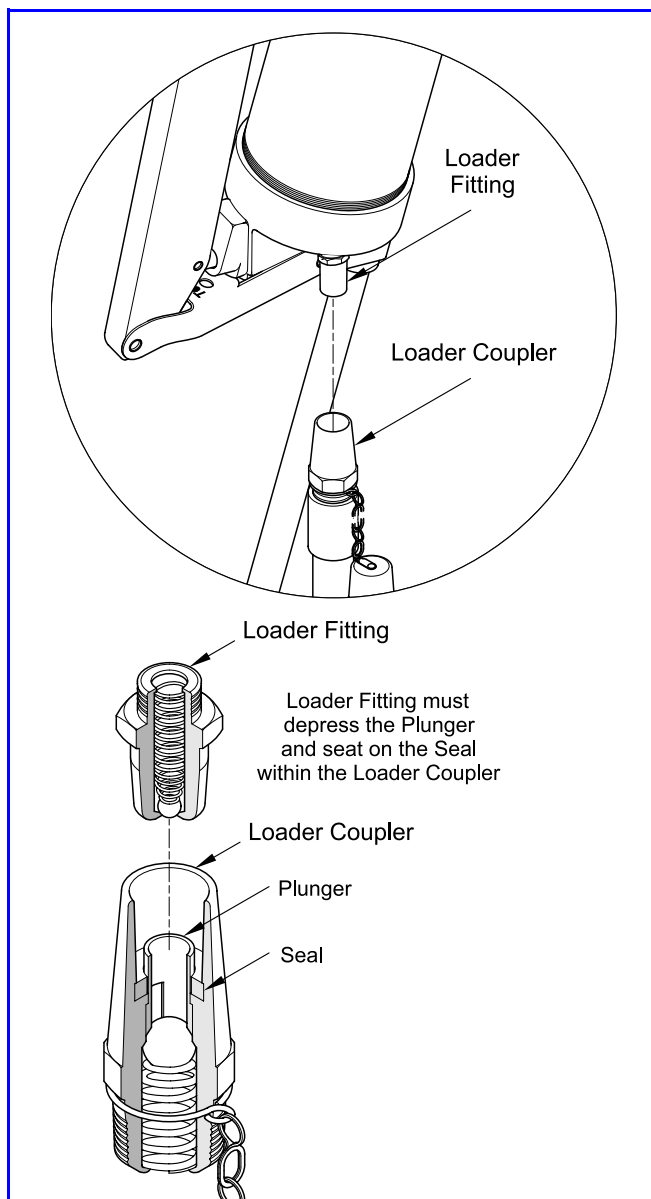

Figure 5 *Loader Fitting and Loader Coupler Section View*
Each gun is also equipped with a Loader Fitting that allows filling directly from a hand-operated loader pump. See **Figure 5**.
5. Seat the Loader Fitting into the loader coupler. See **Figure 5**.